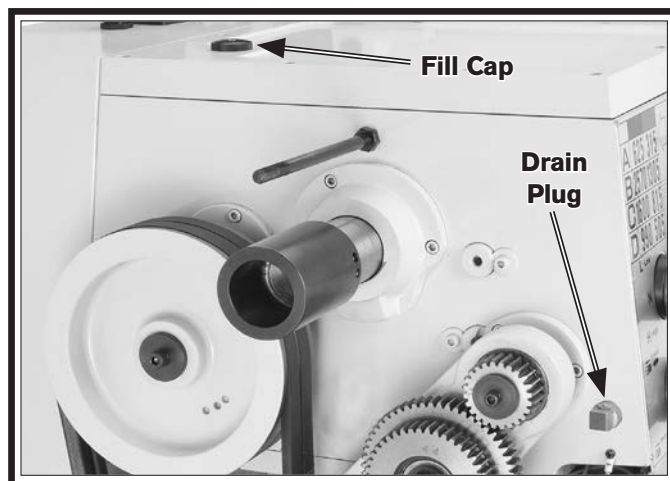

Figure 107. Headstock fill and drain plugs.
The oil fill cap is located on top of the headstock, as shown in **Figure 107**.
4. Place the catch pan under the headstock drain plug (see **Figure 107**), then remove the plug and allow all of the oil to drain out.